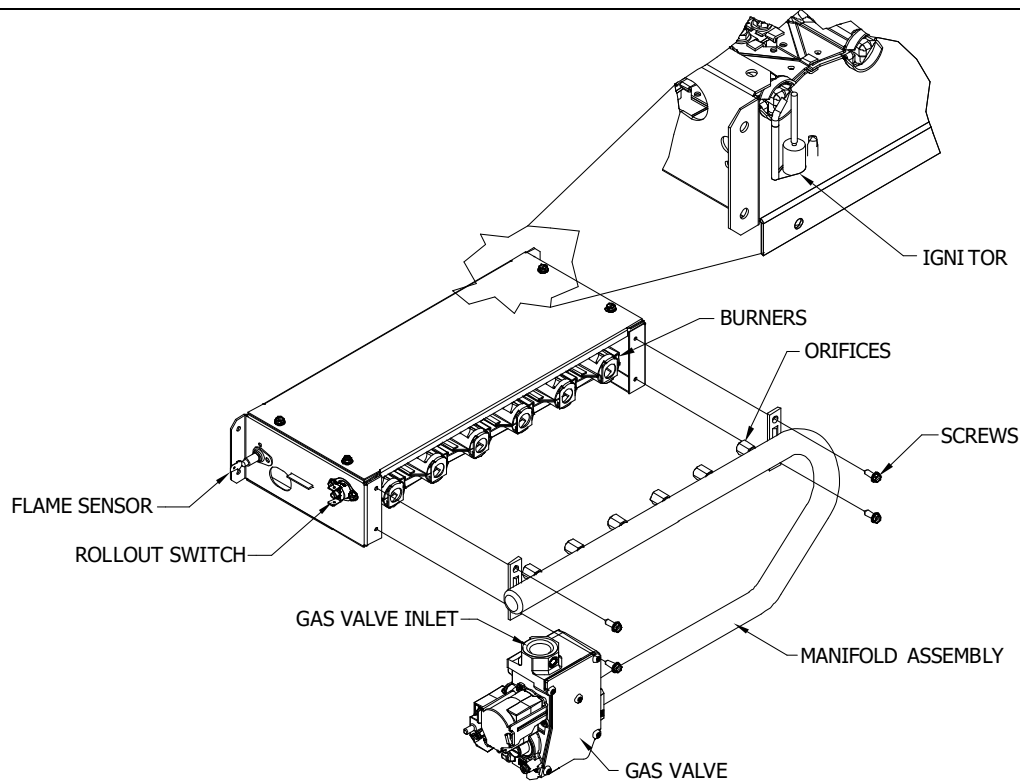

FIGURE 39 - Burner Components
6. The burner flames are proper (see **FIGURE 39 - Burner Flames**) being drawn into the heat exchanger tubes, not lifting, blue in color, not being distorted by fan operation.
- 2) Remove heating section access panels shown in **FIGURE 39- Heating Access Panel Removal**.